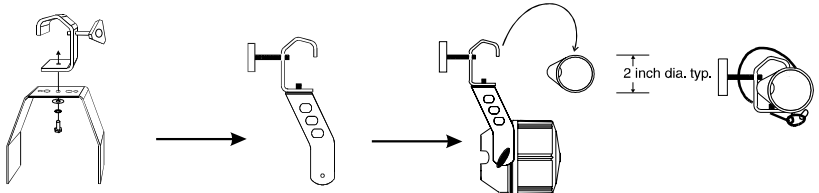

Figure 10. Mounting the Fixture
12. At this point, you can mount the fixture and yoke in any of several ways: C-clamping it to a truss or bolt it to a flat surface through holes in the top of the yoke, etc. Refer to Figure 10.